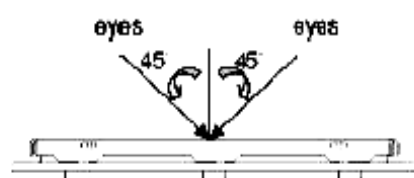

Fig. 1
(3). The test direction is base on about around 45° of vertical line. (Fig. 1)